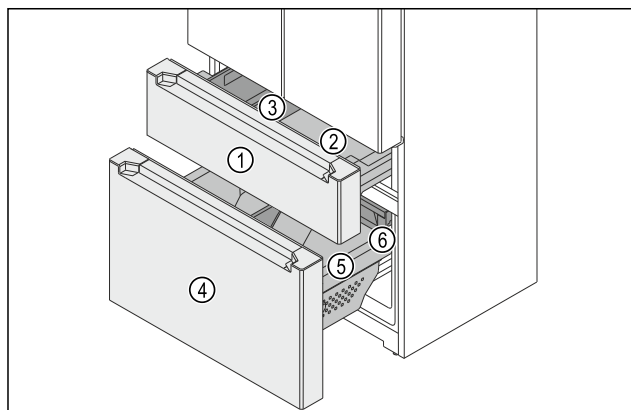

Fig. 149 Freezer section pull-out telescopic drawers
The freezer section consists of two pull-out telescopic drawers. The upper telescopic unit Fig. 149 (1) contains a container Fig. 149 (2) and a FlexBox Fig. 149 (3). The lower telescopic unit Fig. 149 (4) contains a large container Fig. 149 (5) and a drawer Fig. 149 (6). The FlexBox and the container in the top pull-out trolley can be removed for cleaning.